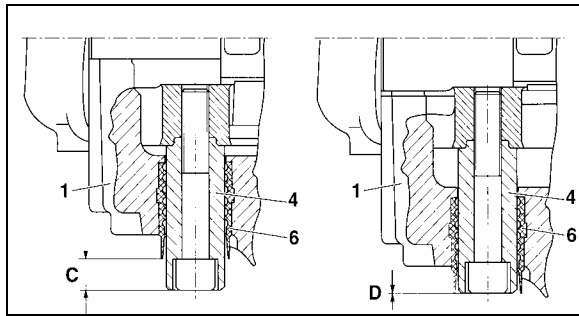

FIGURE 30: BRAKE PAD CHECK
The pad thickness can be seen but would require removal of the tire and rim. An indicator of the pad wear condition is available by inspecting the floating pin location in relation to the rubber bushing as shown in figure 30. When pads are in new thickness condition, the pin will be exposed (C) 19 mm (3/4"). When the pads are worn to replacement conditions, the pin will be nearly flush to the bushing (D) or within 1 mm (3/64") of the edge of the rubber bushing.